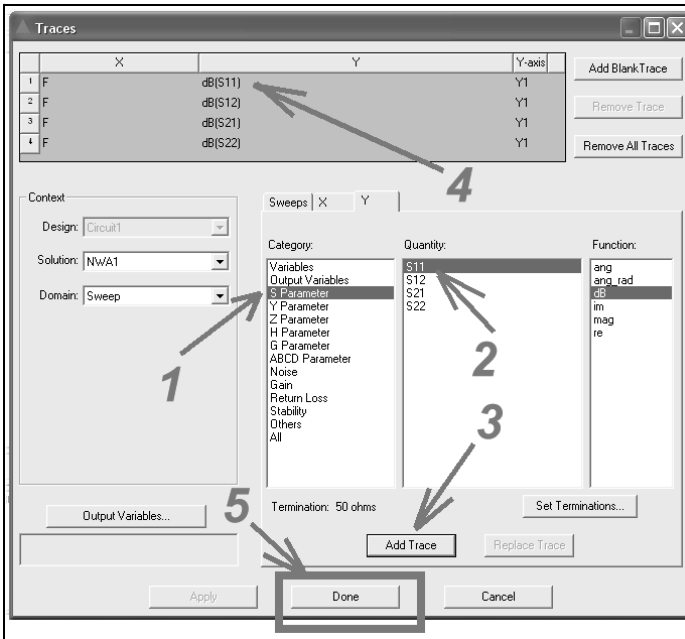

Fig 21: Selecting the S Parameters for output.
Now it is somewhat complex (Fig 21), because the steps (1) to (5) must be carried out successively.